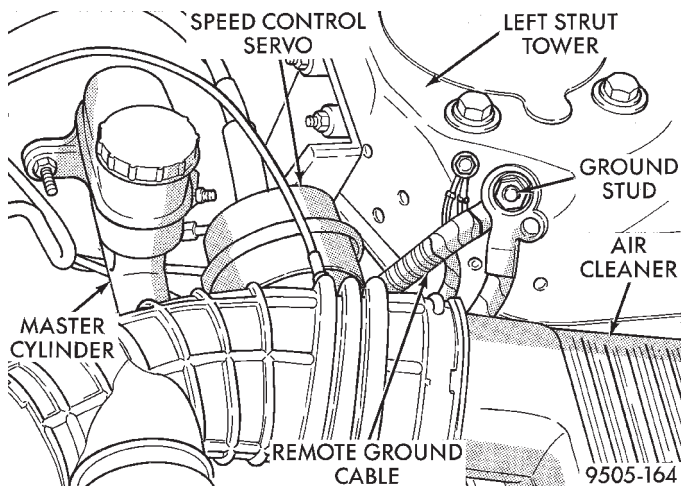

Fig. 91 Ground Cable Attachment At Strut Tower
(1) Remove the remote ground cable from the ground stud located on the left strut tower (Fig. 91).